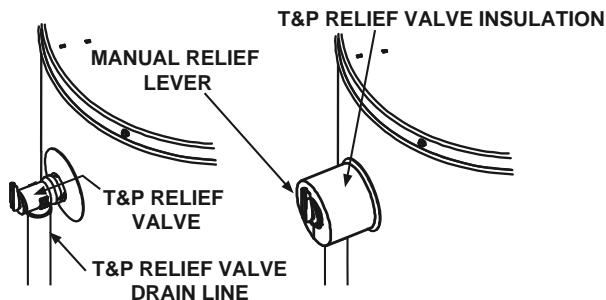

FIGURE 13B.
1. Locate the temperature and pressure relief valve on the water heater (also known as a T&P relief valve). See Figure 13B.
3. Spread the slit open and fit the insulation over the T&P relief valve. See Figure 13B. Apply gentle pressure
**IMPORTANT:** The insulation or tape should not block or cover the T&P relief valve drain opening. Also, the insulation or tape should not block or hinder access to the manual relief lever (Figure 13B). Ensure that a discharge pipe is installed into the T&P valve discharge opening per the instructions in this manual.